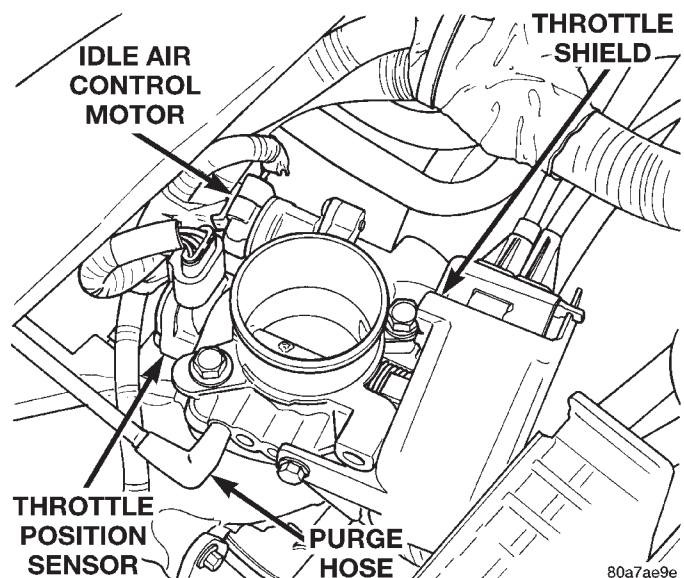
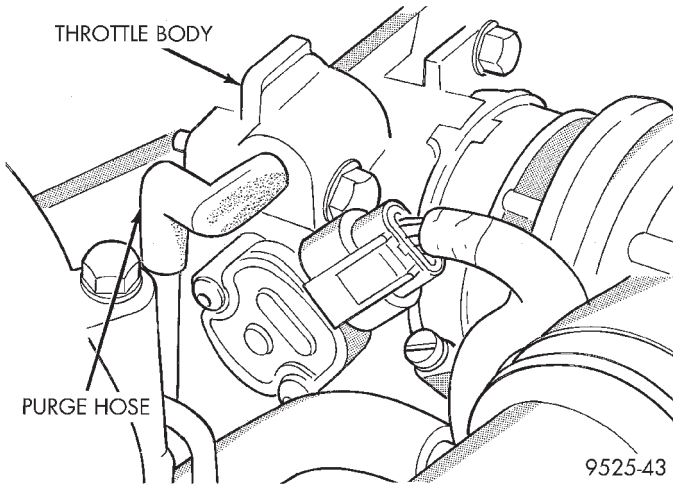

Fig. 60 Purge Hose—2.4L Engines
Fig. 61 Purge Hose—2.5L Engine
- (1) Turn ignition key to Off.
- (2) Disconnect the PCV valve hose from the intake manifold nipple. Cap the PCV vacuum nipple.
- (3) Disconnect purge hose from the nipple on the throttle body (Fig. 60) or (Fig. 61).